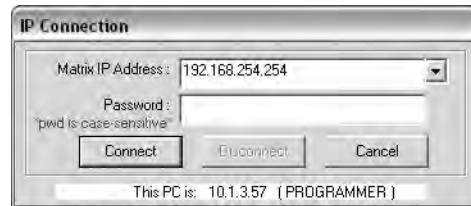

Figure 63. Address and Password Entry
3. If you selected **IP [LAN]** in step 2, the IP Connection window appears (see figure 63).